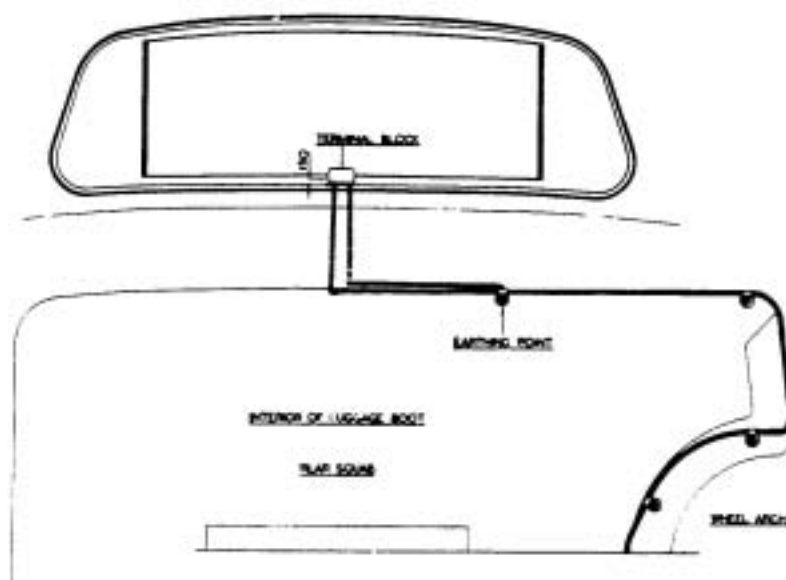

FIG.2
- (vi) Anchor the cable to the squab screws following the line of the boot as shown in Fig.2 and enclosing the cable in P.V.C. tube.
- (vii) Drill two .218" dia. (5.5 mm) holes one on each side of the centre line, 1" between centres, through the rearmost sloping portion of the parcel shelf. Stick the terminal block to the rear window with Durafix symmetrically across the centre line and approximately .150" (3.01 mm) above the top edge of the wooden finisher. When secure attach the demister terminals and the feed wire. Connect a short earthing cable from the terminal block to the centre screw on the top of the rear squab (Fig.2).